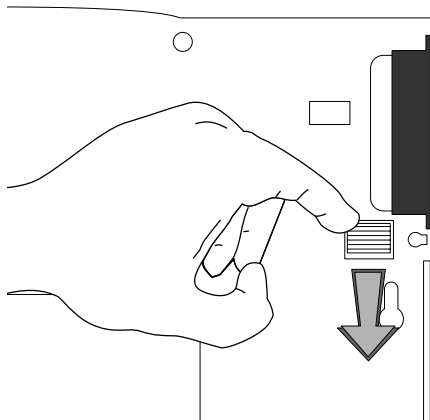

Figure 3-4 Removing the Battery Pack
3. Press the battery latch (see Figure 3-4) away from the battery.